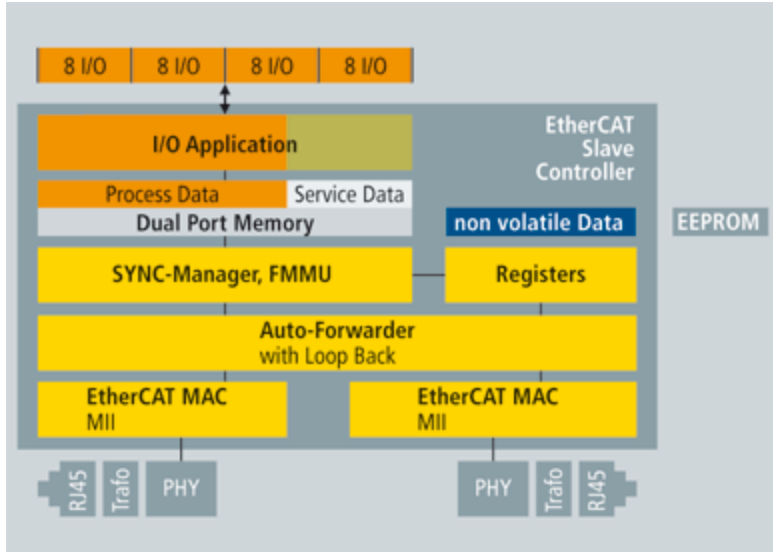

Figure 3-59: Slave Hardware: FPGA with direct I/O
- The 32-bit parallel I/O interface is suitable for the connection of up to 32 digital inputs/outputs, but also for simple sensors or actuators operating with 32 data bits. Such devices do not need a host CPU at all (as shown in "Figure 3-59: Slave Hardware: FPGA with direct I/O " on page 166).